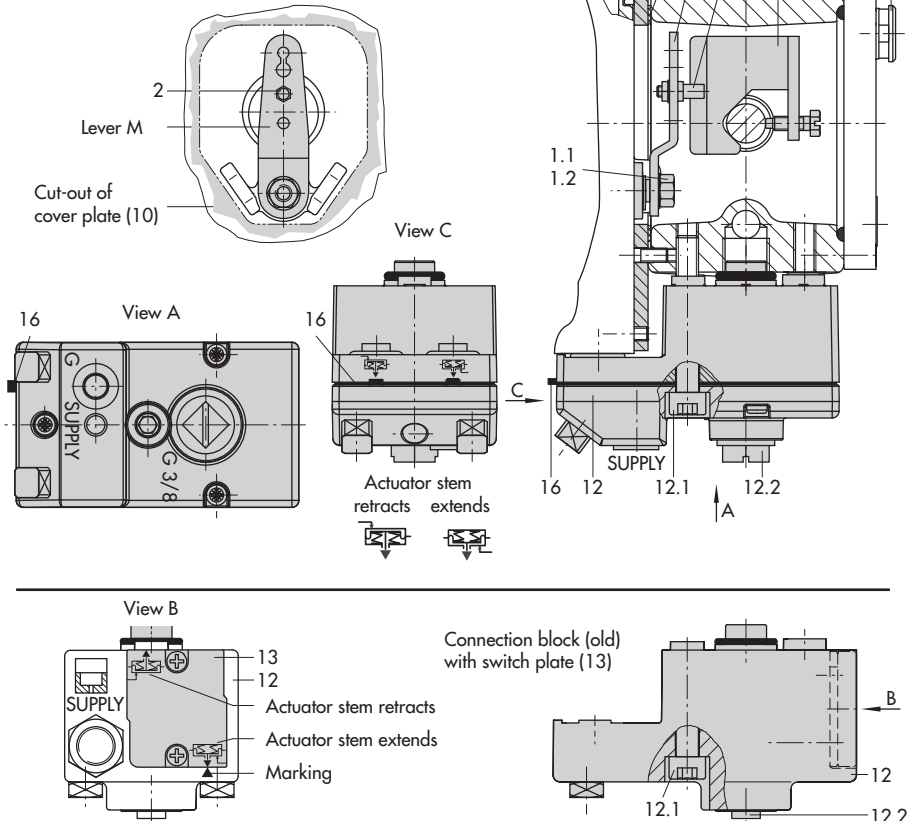

Fig. 5 · Direct attachment – Signal pressure connection for Type 3277 Actuator with 240, 350 and 700 cm2
Mount the positioner on the yoke as shown in Fig. 5. The signal pressure is routed to the actuator over the connection block (12), for actuators with fail-safe action "Actuator stem extends" internally through a bore in the valve yoke and for "Actuator stem retracts" through external piping.
1. Place follower clamp (3) on the actuator stem, align and screw tight so that the mounting screw is located in the groove of the actuator stem.
2. Mount cover plate (10) with narrow side of the cut-out opening (Fig. 5, on the left) pointing towards the signal pressure connection. Make sure that the bonded gasket (14) points towards the actuator yoke.
3. For actuators with 355/700 cm2, remove the follower pin (2) at lever **M** (1) on the back of the positioner from pin position **35**, reposition it in the bore for pin position **50** and screw tight.
6. Make sure that the tip of the gasket (16) projecting from the side of the connection block (12) is positioned above the actuator symbol that corresponds with the actuator with fail-safe action "Actuator stem extends" or "Actuator stem retracts." If necessary, remove the three fixing screws and the cover. Then reposition the gasket (16) turned by 180°. The previous version of the connection block (Fig. 5, bottom) requires the switch plate (13) to be turned such that the corresponding actuator symbol points to the marking.
7. Place the connection block (12) with the associated seal rings against the positioner and the actuator yoke. Screw it tight using the fixing screw (12.1). For actuators with fail-safe action "Actuator stem retracts", additionally remove the stopper (12.2) and fit on the external signal pressure piping.
8. Mount cover (11) on the other side. Make sure that the vent plug points downwards when the control valve is installed to allow any condensed water that collects to drain off.